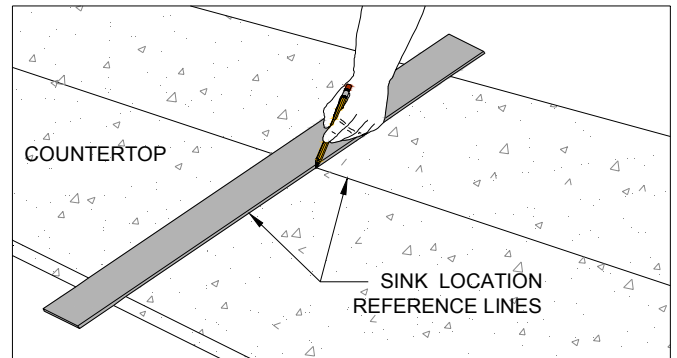

Figure 34A
- Locate where sink is to be installed on the top side of the countertop and draw reference lines. (FIG. 34A)